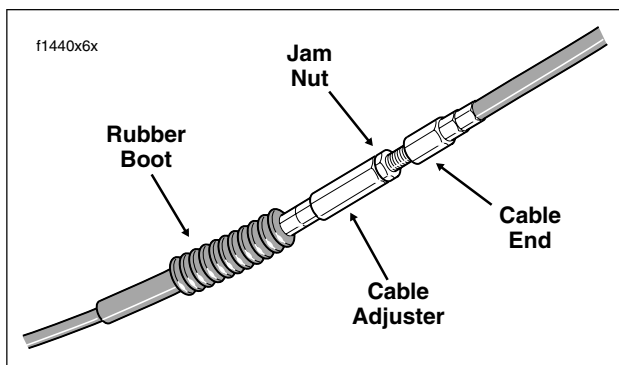

Figure 1-6. Clutch Cable Adjuster Mechanism
- See Figure 1-6. Slide rubber boot off cable adjuster. Holding cable adjuster with 1/2 inch wrench, loosen jam nut using a 9/16 inch wrench. Back jam nut away from cable adjuster. Move adjuster toward jam nut to introduce a large amount of free play at hand lever.